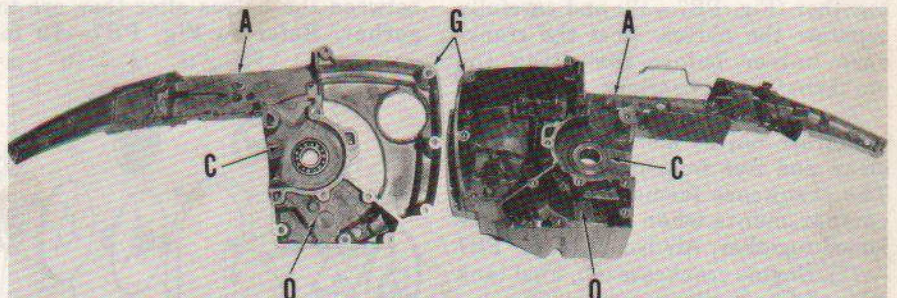

**Fig. PR7-18—The right side of crankcase should be assembled as shown before positioning the left half on top.**
The throttle trigger (14—Fig. PR7-18), throttle lock, throttle link (15), insulator (7), seal (12), fuel tank (3),